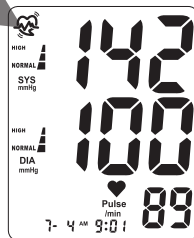

Fig. 6
10. If an irregular heartbeat was detected during the reading, the Irregular Heartbeat Detector symbol  will appear on the display, Fig 6. See page 18 for more information on the Irregular Heartbeat Detector feature.